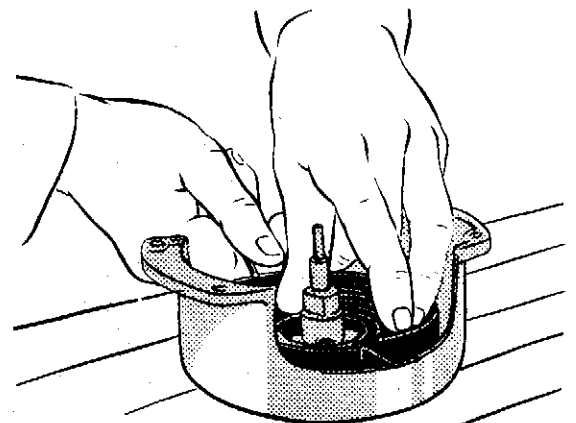

Fig. P12
Take magazine containing new spring and place in housing (1) external loop of spring to go over pin provided. Keep spring pressed down in housing and prise off the spring magazine. See Fig. P12.